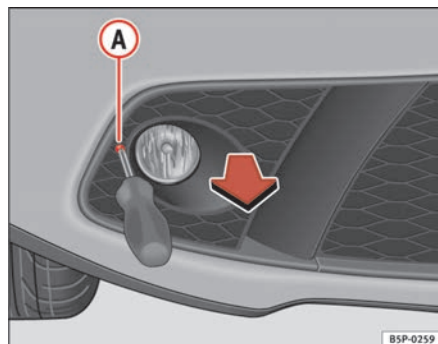

Fig. 205 Access to towing eye housing
- Remove screw **A** ⇒ fig. 205.